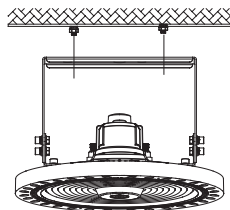
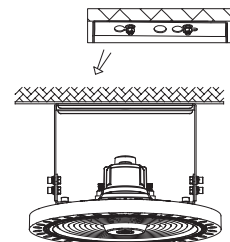

Figure 5
Figure 6
- Step 3. Align the bracket hole with screw hole (Figure 5), and push the fixture to one side (Figure 6) and secure it.